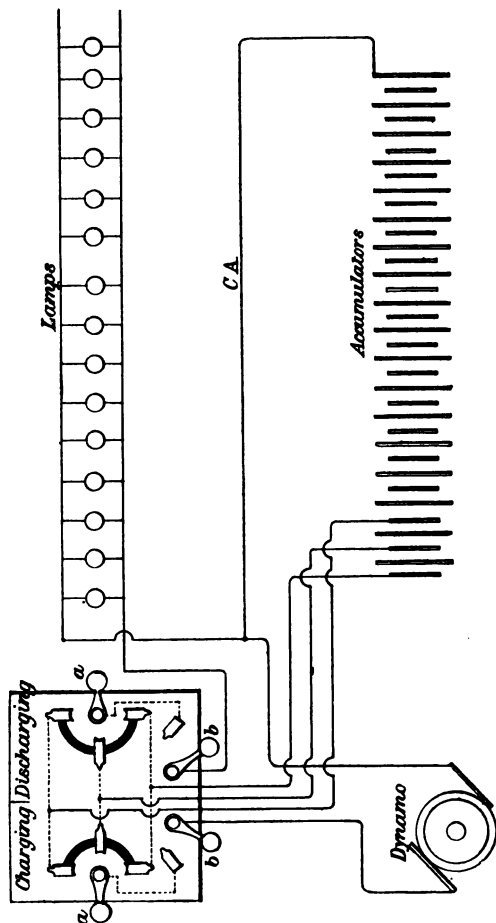

Fig. 86.—Diagram showing Manner of connecting Accumulators.
*Connections of Dynamo and Accumulators.*—Fig. 86 will serve to explain the best way in which to arrange the connections of the dynamo, current alarm bell, switches and accumulator with lamps. It will be seen